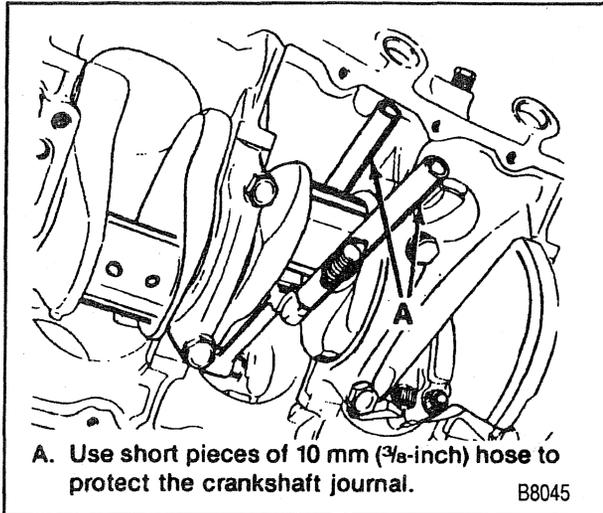

Figure 28—Replacing the Connecting Rod and Piston
←→ Remove or Disconnect (Figure 28)
- A. Attach two short pieces of 10-mm (3/8-inch) hose to the connecting rod bolts (figure 28). This will protect the crankshaft journal during removal.
- A. With the connecting rod cap removed, install two short pieces of 10-mm (3/8-inch) hose onto the connecting rod studs (figure 28).